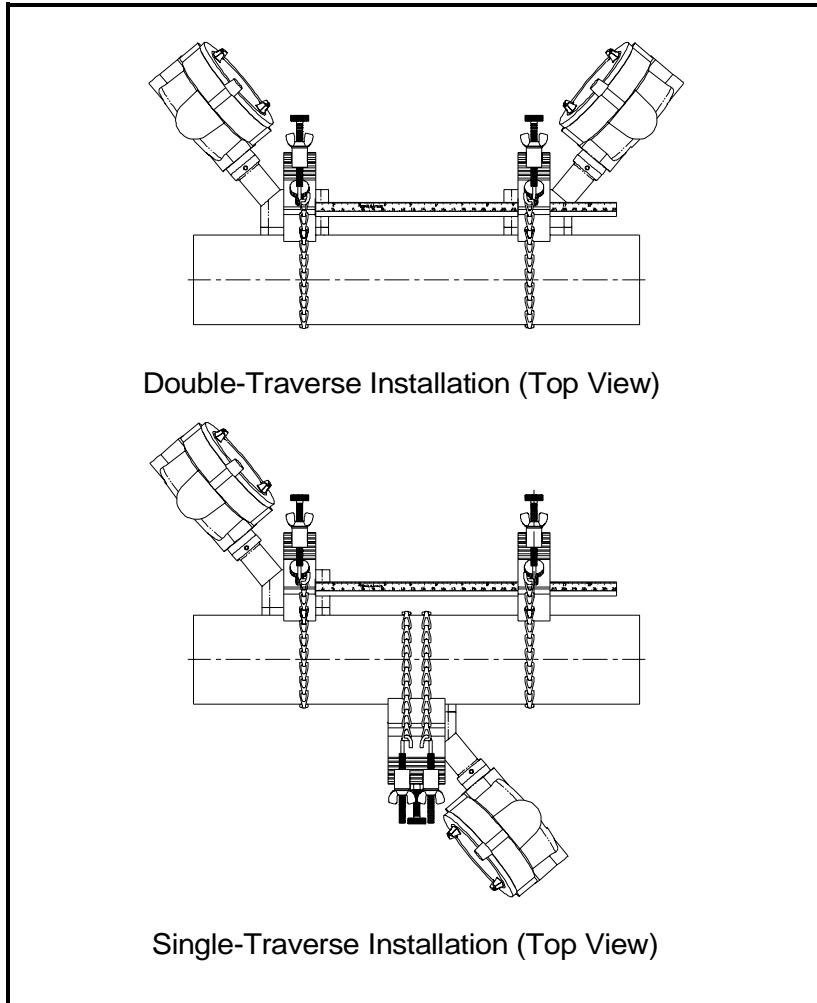

Figure 6: Completed UCF Installations with Transducers
8. Tighten the thumbscrews on the short blocks to make sure the block is secure on the rail. See Figure 6 on the next page for completed UCF installations.